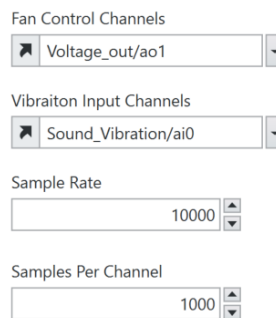

Figure 7-31 Using the DAQmx API means creating front panel controls that allow the user of your program to adjust configuration settings easily at run-time.
- Set the Fan control channels, vibration channels, sample rate, and samples per channel controls appropriately, as in Figure 7-31.